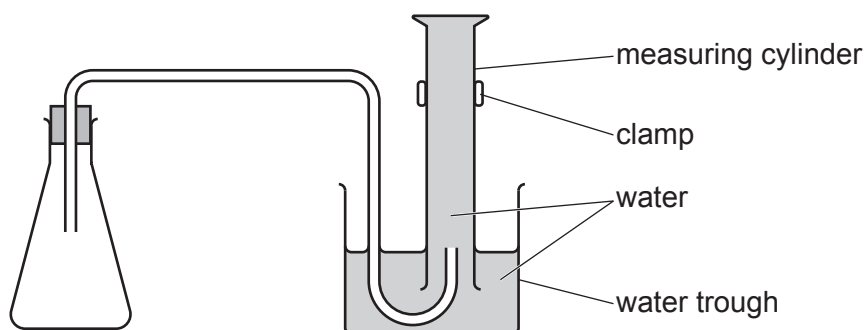

Fig. 3.1
- (iii) apparatus assembled as in Fig. 3.1 using 100 cm³ measuring cylinder (see note 2)